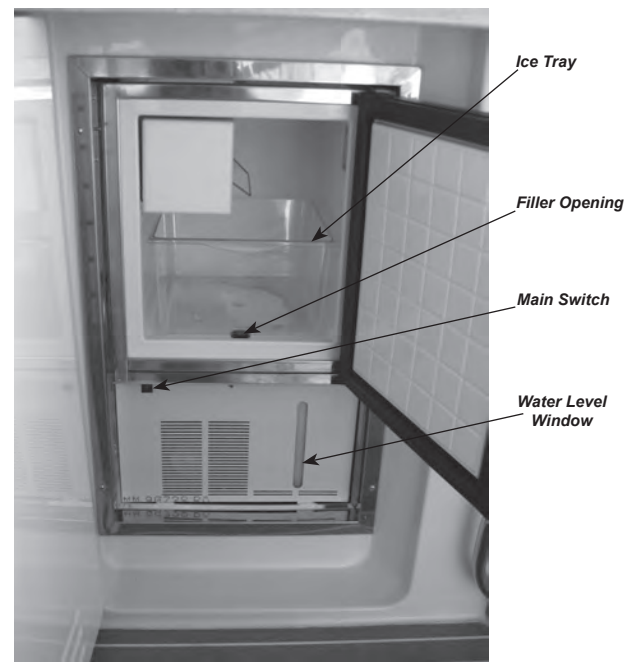

Figure L5: Ice Maker
- 2) Pour bottled water into the tank through the filler opening (minimum 1 liter / maximum 8 liters) See Figure L5. The water level may be checked through the water level window.